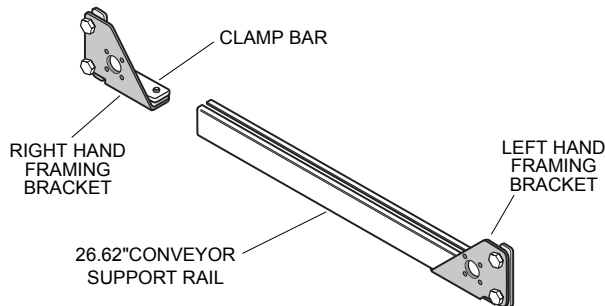

**Figure 6.**
- Mark heights of four cross conveyor support cross rails on uprights of both side frames (Fig 6). Note that support rails on front uprights are installed lower than corresponding support rails on back uprights so that bins will roll to front on roller conveyors.